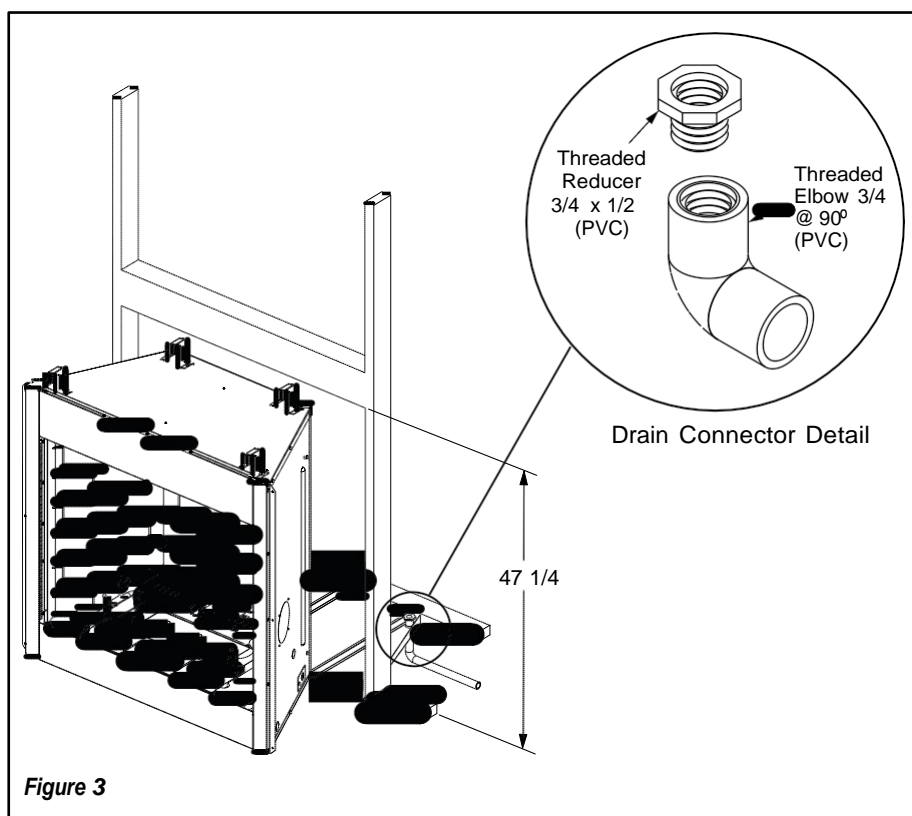

Figure 3
3. Waterproof the fireplace or install the optional drip pan (see *Waterproofing The Fireplace* and **Figure 3** on **Page 5**).
Step 1. Seal all joints, gaps and corners around the bottom of the drain pan before positioning the fireplace on its location (*Figure 3*).